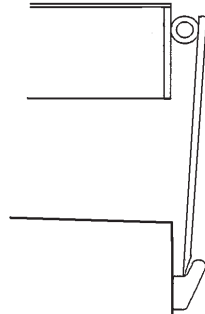

Figure 22
5. Once the lip is pendant, continue to press the LOWER button until the unit goes into float mode and descends into the lip keepers (see Figure 22).